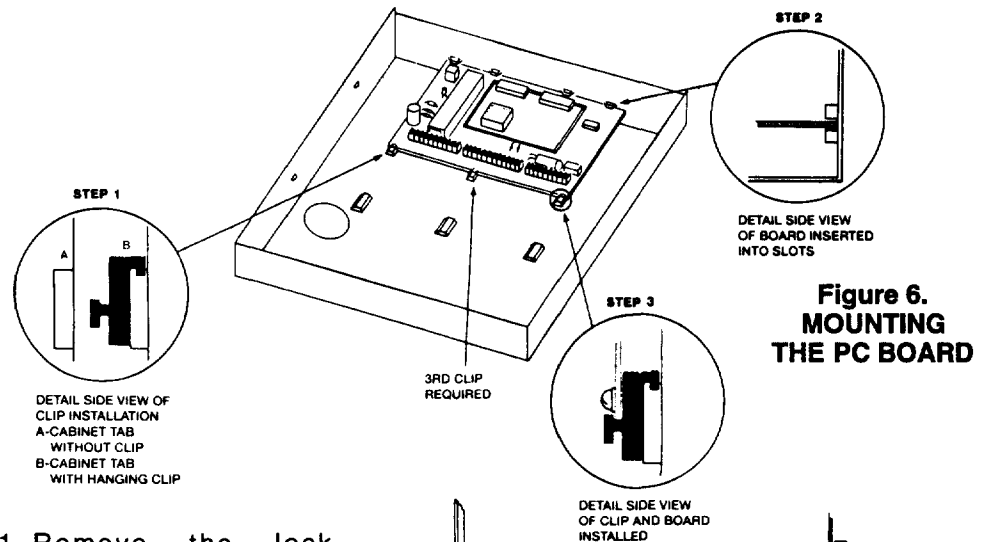

Figure 6.
2. Insert the top of the PC board into the slots at the top of the cabinet. Make certain that the board rests in the slots as illustrated in step 2 detail (Fig. 6).